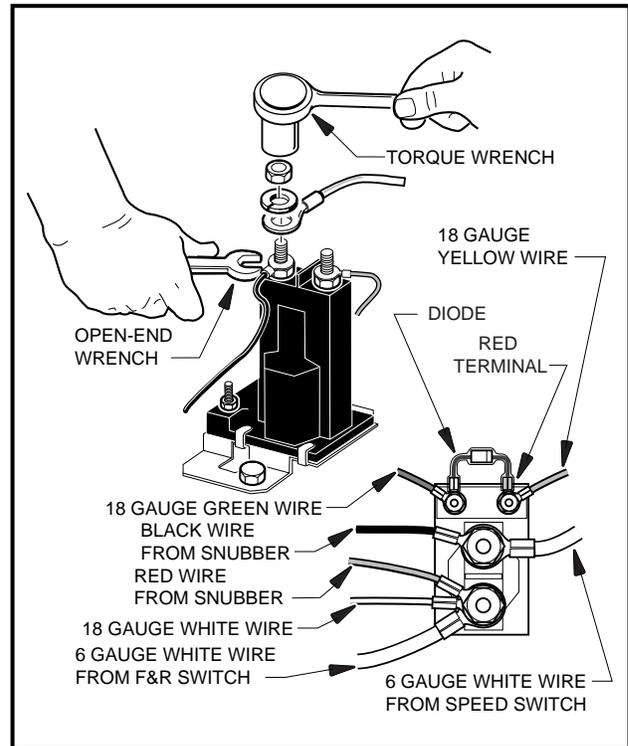

Figure 12-5 Connect Solenoid Wires
3. Install diode assembly onto small solenoid posts. Make sure the direction of the diode is correct. The red insulated terminal of the diode assembly should be installed on the same post to which the 18 gauge yellow wire is attached, and the clear insulated terminal of the diode assembly should be installed on the same post to which the 18 gauge green wire is attached (**Figure 12-5, Page 12-5**).
6. Using a low profile wrench to hold the inner nuts on the solenoid posts in place, tighten the outer nuts of the large posts to 75 in.lb (8.5 N-m). Tighten the outer nuts of the small solenoid posts to 18 in.lb (2 N-m) (Figure 12-5, Page 12-5). **See following WARNING.**